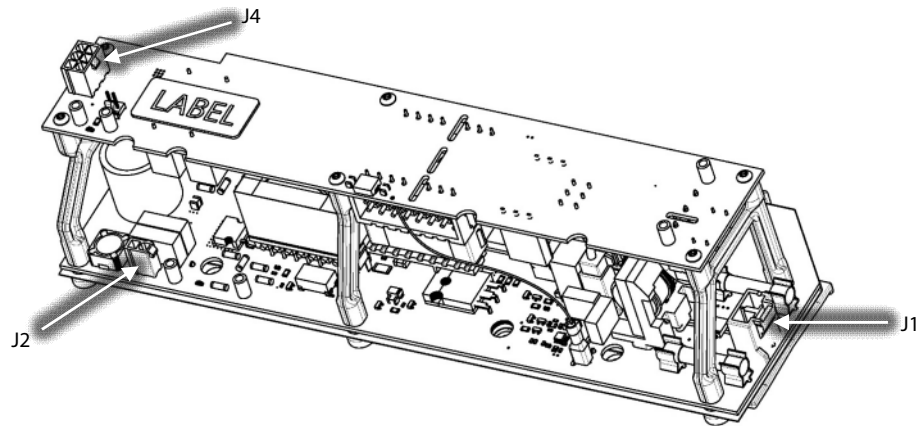

Figure 19 – DC-DC Converter Connector Locations
- e. Remove the cable ties as necessary and adjust the DC-DC to Backplane Cable Harness so that you can connect to J4 (24VDC output) and J2 (250VDC Output) to the DC-DC Converter. Refer to Figure 19 – *DC-DC Converter Connector Locations* for this and the following step.